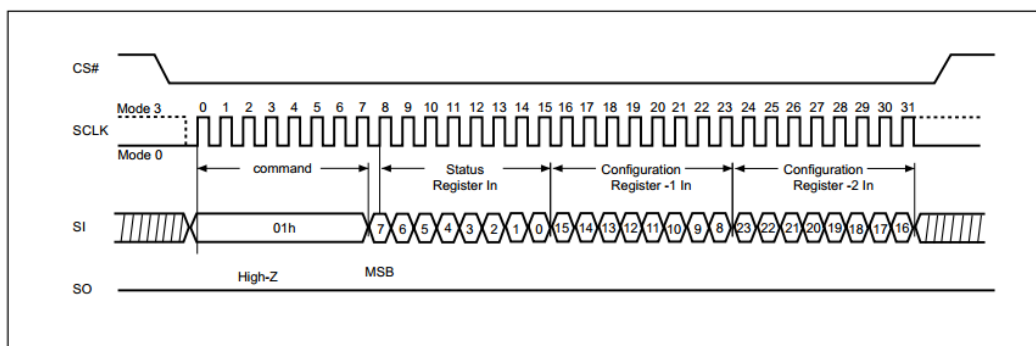

Fig 17-7 Write Status Register and Write Configuration Register sequence (FlashClass6)
**Note 3:** For MXIC wide-range VCC, the Write Configuration Register is written together with Write Status Register using 0x01, as Fig 17-7 shows.